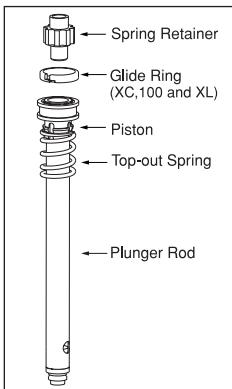

Fig. 9
12. Remove damper assemblies from upper tubes using small tip internal snap ring pliers, note orientation of all parts, The right damper rod includes a plunger rod, glide ring, top-out spring, spring retainer, piston and shuttle valves and wavy washers; the left leg includes a plunger, top-out spring, spring retainer, glide ring (XC, 100 and XL only) and piston (See Fig. 9 and 10).
1. Install new damper kit into upper tubes. Make sure all parts are cleaned and installed in the proper order (see page 13, Fig.9 and 10).